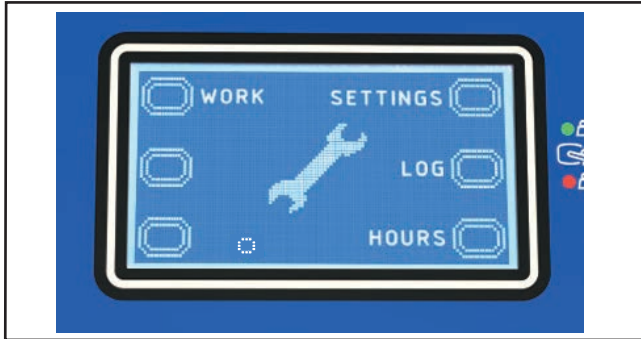

Figure 6
1. Insert the super user key (yellow) in place of the operator key (grey) to access the main screen (Figure 6) of the multifunction display.
5. Press the One-Touch button  for more than 1 second to confirm the chosen parameter and return to the main screen (Figure 6).